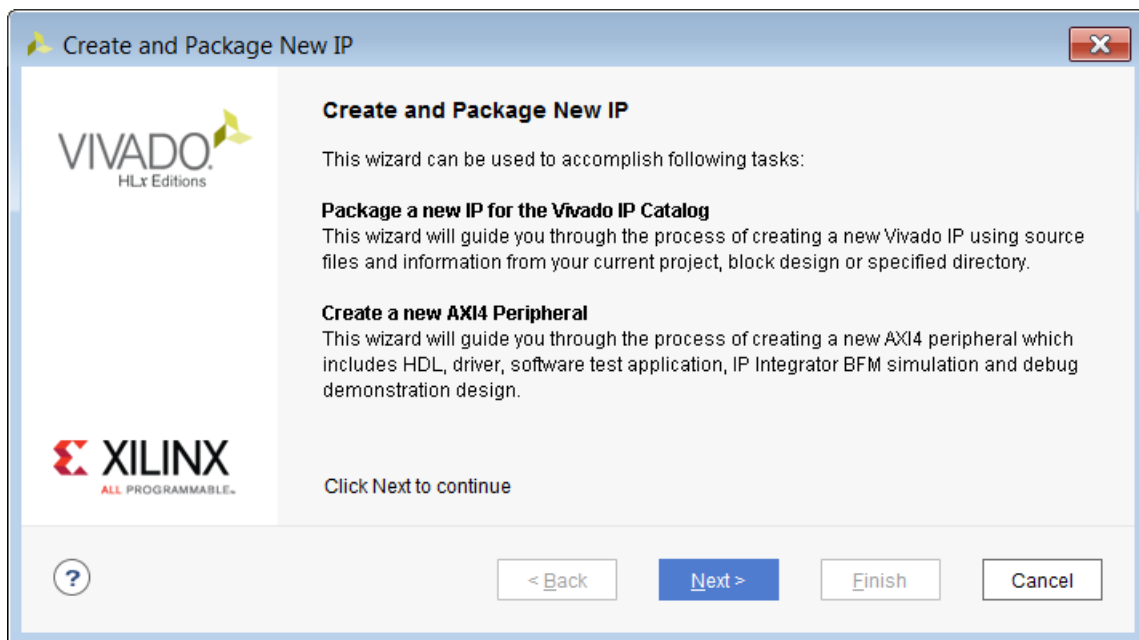

Figure 3-1: Create and Package New IP Wizard
1. From the **Tools** menu, select **Create and Package New IP**. The first page of the Create and Package New IP wizard opens, as shown in Figure 3-1.